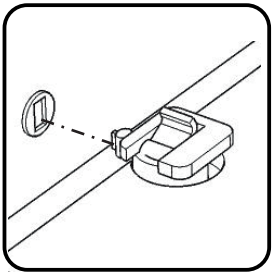

Figure 2
Attach Middle Panel (D) to Base (F), then flip the Locks. (See Figures 2 and 3)